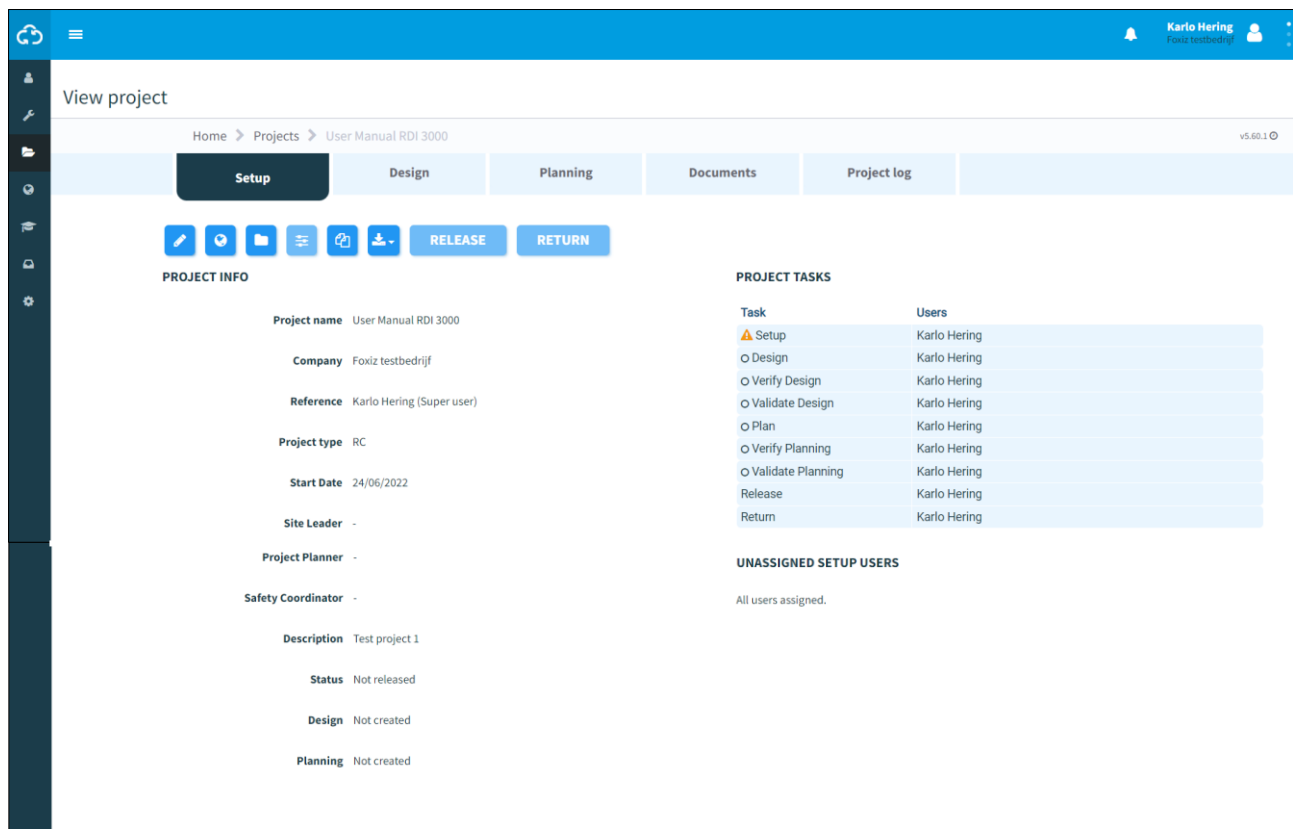

Figure 6-2412: View project
2. Click on Projects to access the page Search projects (Figure 6-).